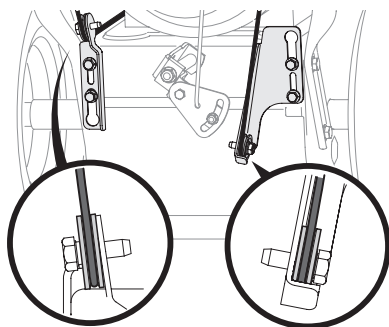

Figure 3
4. Observe lower rear area of equipment to be sure both cables (if equipped) are aligned and seated properly in roller guides (Figure 3).